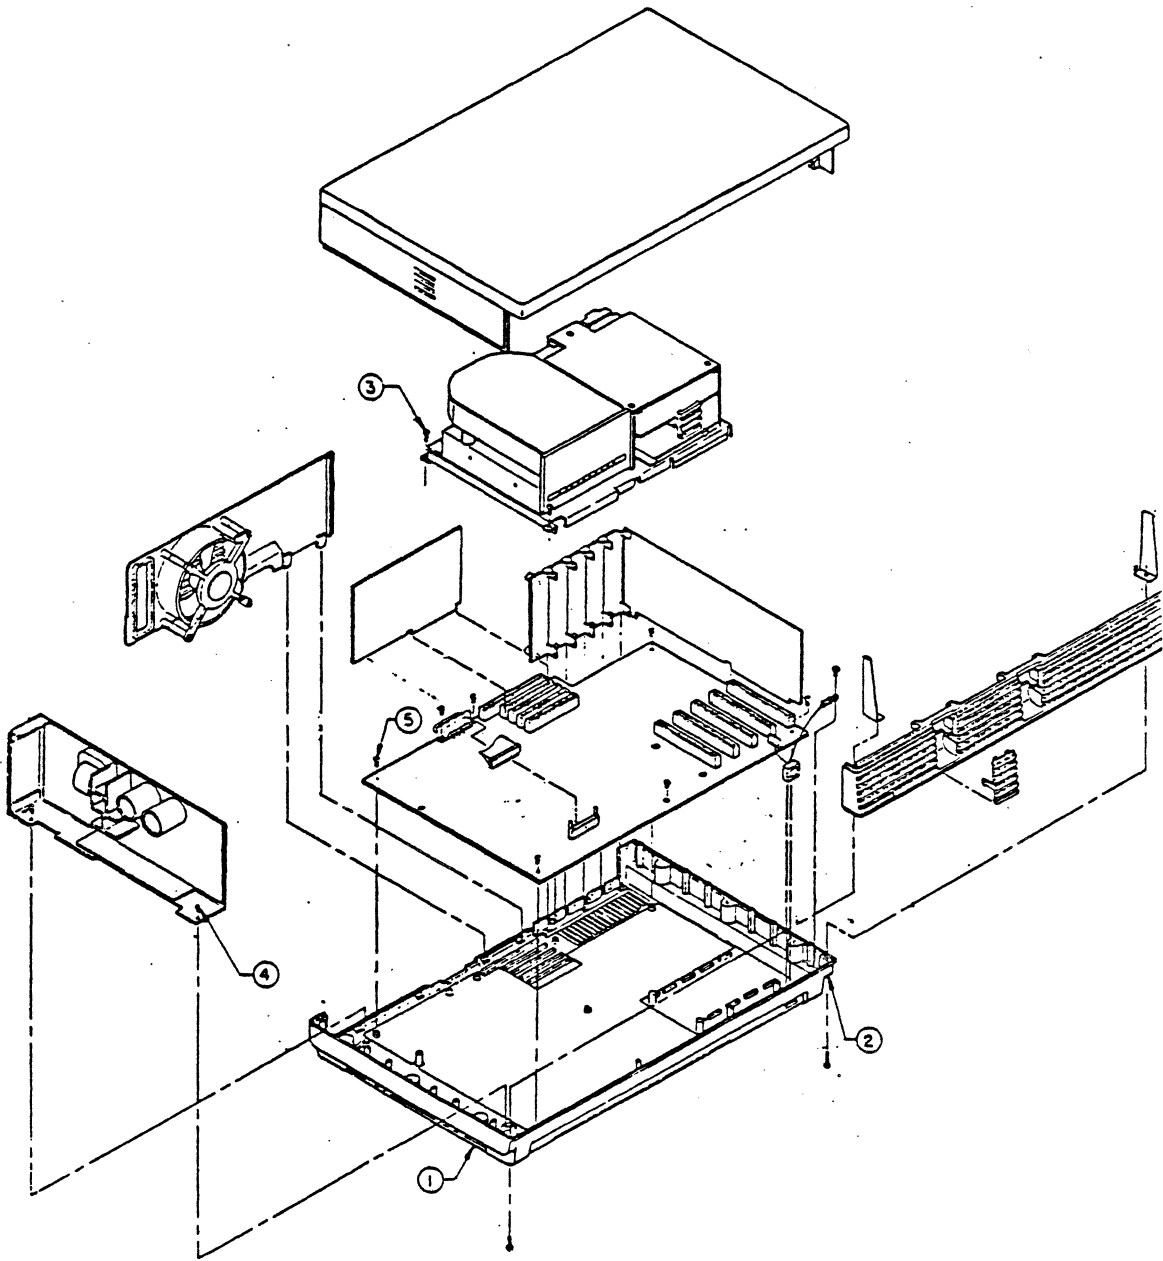

Figure 8-2
2. Position the CPU so that one end extends beyond the edge of the work surface approximately one inch. Loosen the three captive screws in that end (Figure 8-2, item 1). Extend the opposite end of the CPU off the edge of the work surface approximately one inch and loosen the three captive screws.
4. Position the CPU assembly so that the front extends approximately one inch beyond the edge of the work surface. Loosen the two screws at each corner of the base plate (Figure 8-2 item 2) approximately eight turns each.
9. Remove four screws that hold the disk bracket assembly, (Figure 8-2, item 3) and carefully lift it out of the CPU assembly. The disk drives should be handled with care as they can be damaged by rough handling.
14. Remove the two screws holding the power supply (Figure 8-2 item 4). and lift out the power supply.
15. Remove the six screws holding the motherboard to the base. (Figure 8-2, item 5)